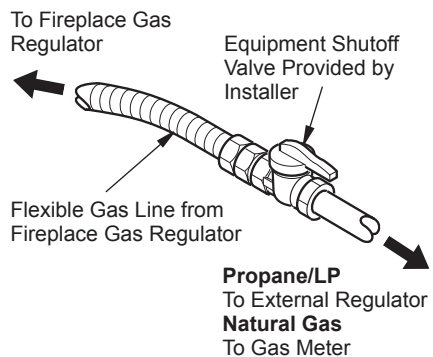

Figure 22 - Attaching Flexible Gas Lines Together
NOTICE: Most building codes do not permit concealed gas connections. A flexible gas line is provided to allow accessibility from the fireplace (see Figure 22). The flexible gas supply line connection to the equipment shutoff valve should be accessible.
5. Attach the flexible gas line to gas supply (see Figure 22). Check tightness of flexible gas line attached to gas regulator of fireplace (see Figure 22).